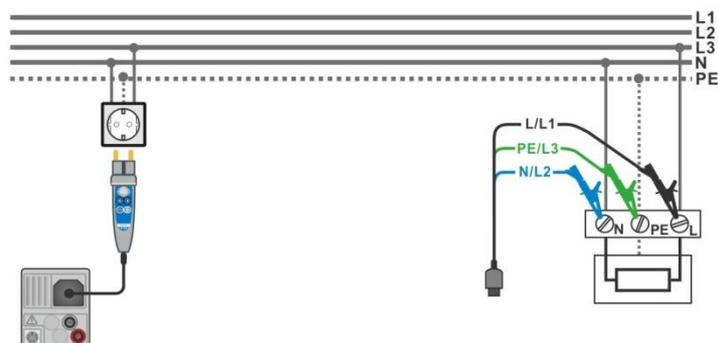

Figure 7.89: Connection of Plug commander and 3-wire test lead
- › Connect test leads or Plug commander to the object under test, see **Figure 7.89**.